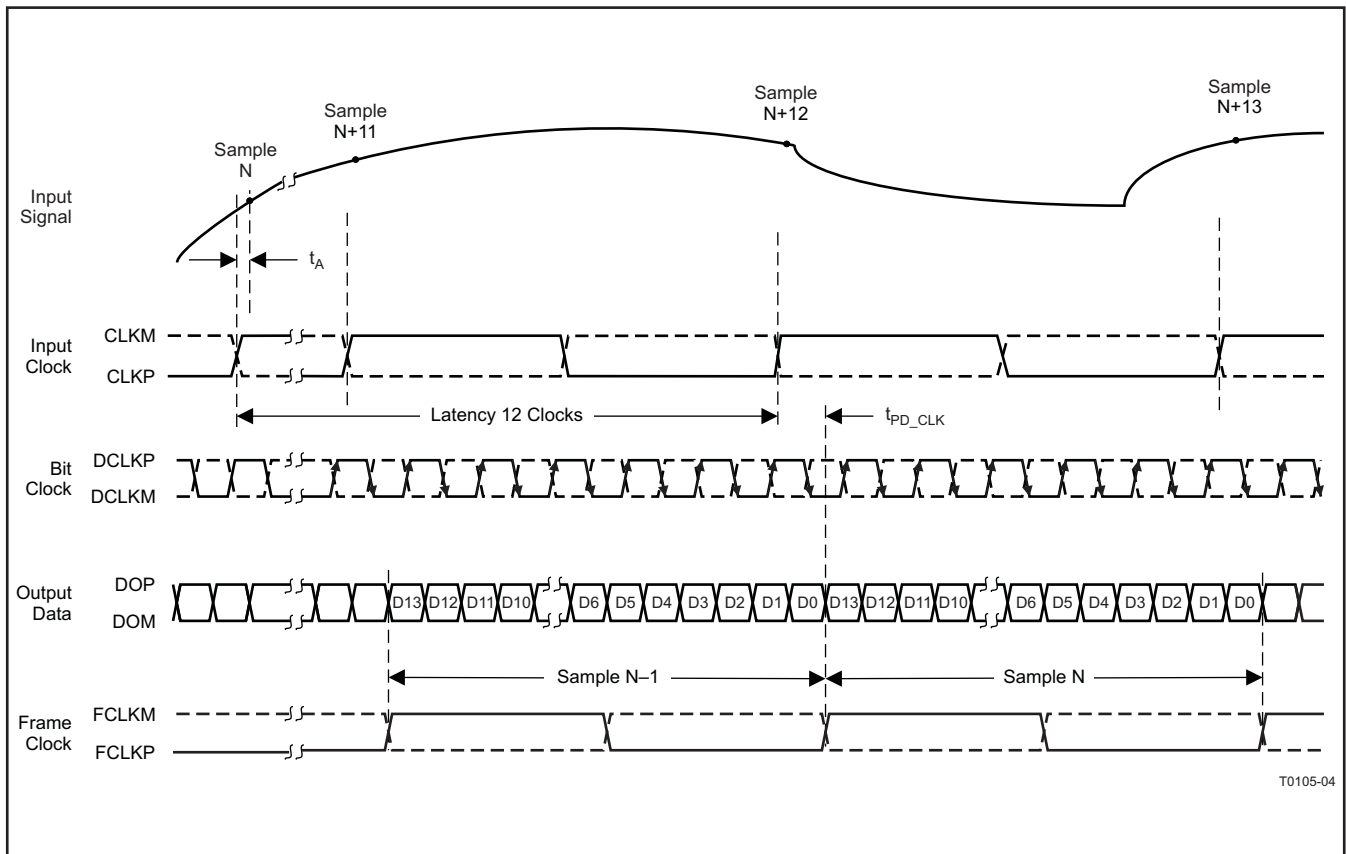

Figure 1. Latency
| ADC Latency (7)  | Time for a sample to propagate to ADC outputs, see <a href="#">Figure 1</a> | 12                                 |      |     | 12                                 |      |     | 12                                |      |     | 12                                |     |     | Clock cycles |